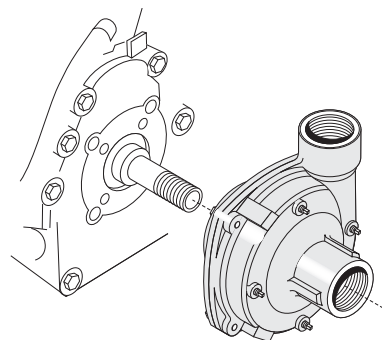

Figure 4
- Install flange onto the gas engine. Make sure the flange bore fits into the bore on the engine. See Fig. 4.